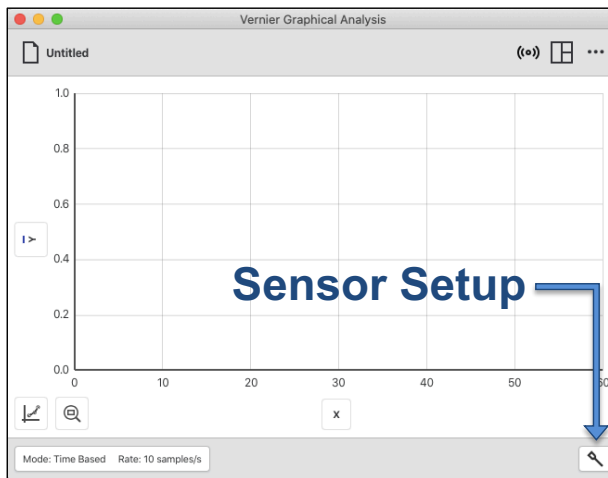

Figure 6. Initial GAPro Screen
- Open GAPro (see PreLab Document for Instructions on installing GAPro). The screen should initially resemble Fig. 6.